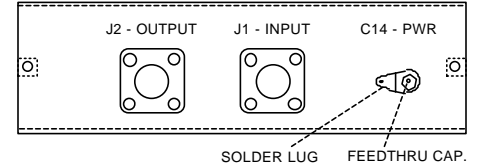

Figure 2. Outside View of End Plate.
i. Install feedthru capacitor C14 from the outside of the end plate as shown in figure 2. Insert the capacitor through a #8 ground lug, through the outside of the end plate, and secure with a #8 lockwasher and nut on the inside. Tighten the nut on the inside of the assembly with a 1/4-inch nut driver. *Be careful not to break the ceramic by putting force on capacitor leads, and be careful not to over tighten nut.*